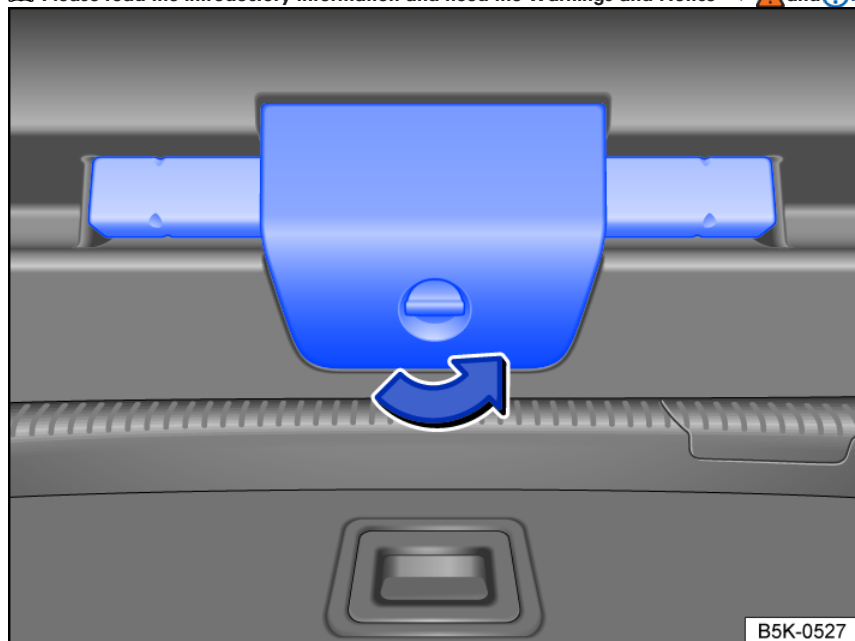

Fig. 69 In the trunk lid: open the holder for the warning triangle.
- Turn the catch of the holder for the warning triangle 90° counterclockwise *fig. 69.*